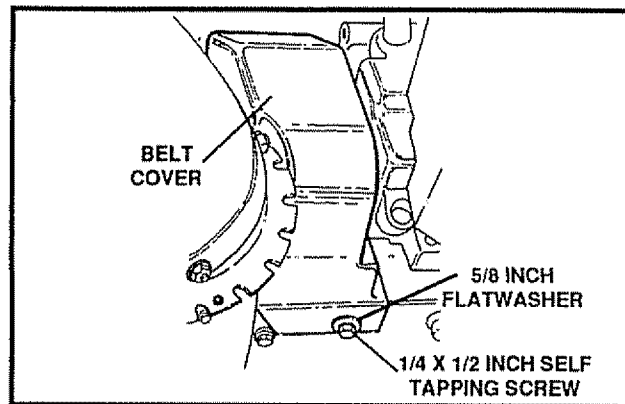

FIG. 27
- Remove the belt cover (See Fig. 27, page 21)
- Remove the belt cover (See Fig. 27)
- Remove the belt cover by removing the screw and flatwasher on the left and right hand sides. See Fig. 27, page 21.